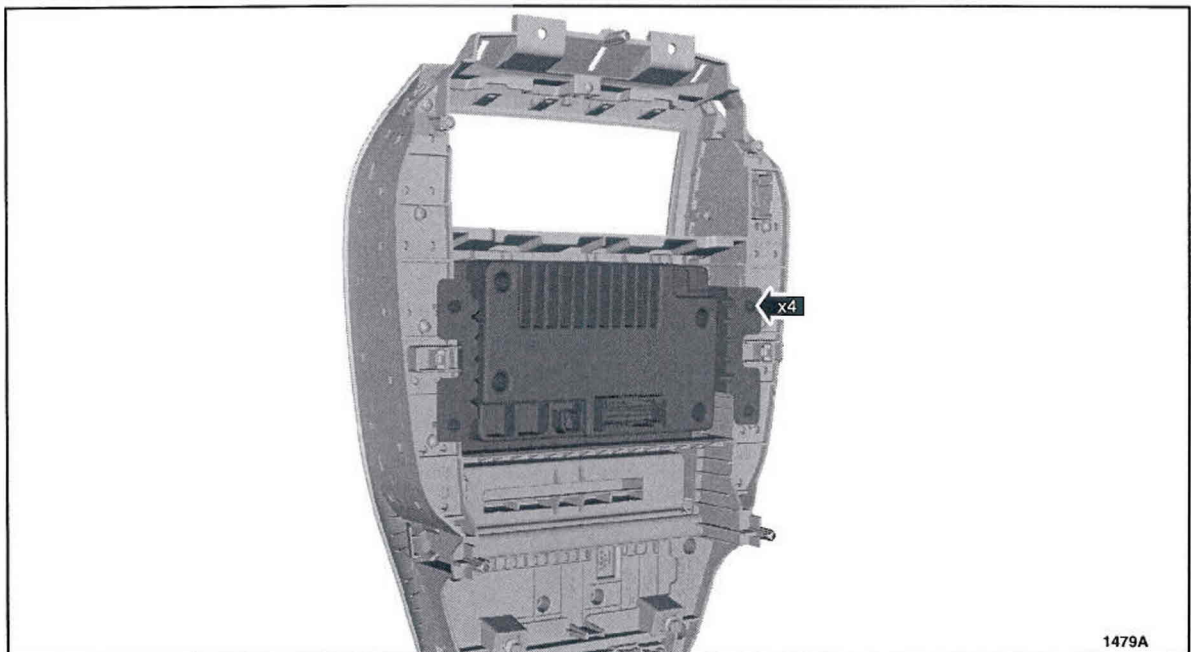

FIGURE 1
3. Remove the four retainers and the Front Display Interface Module (FDIM). See Figure 1.
3. Install the FDIM and the four retainers. See Figure 1.